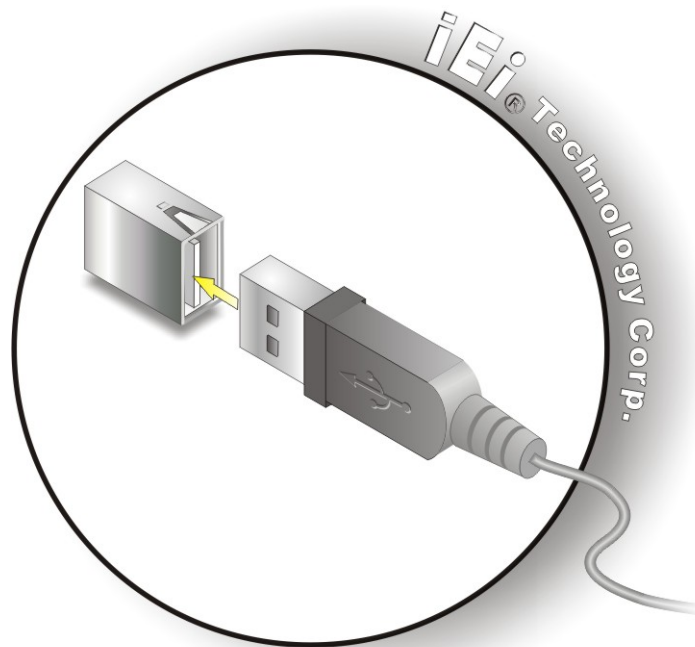

Figure 4-31: USB Device Connection
Step 2: Align the connectors. Align the USB device connector with one of the connectors on the WAFER-945GSE3. See Figure 4-31.